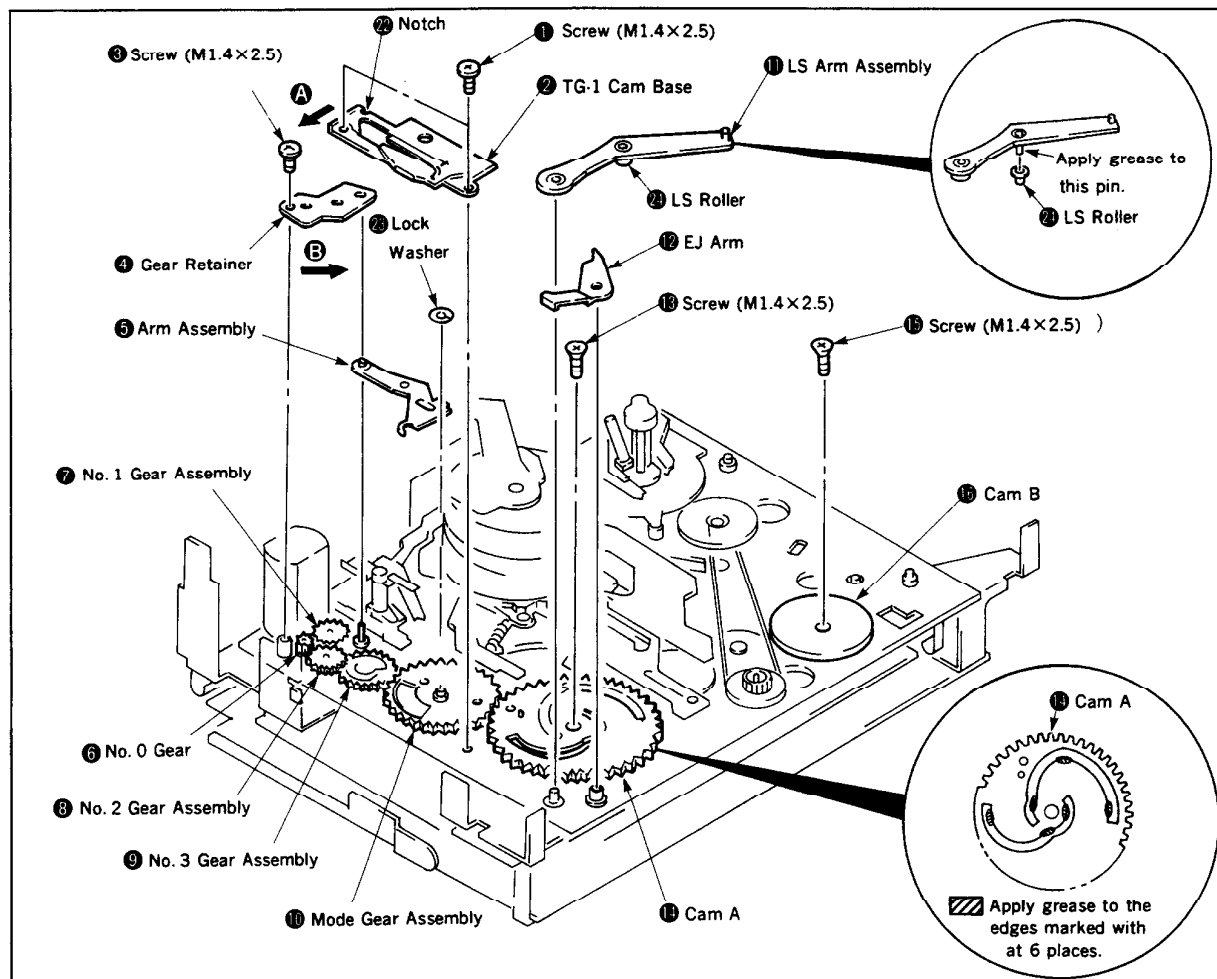
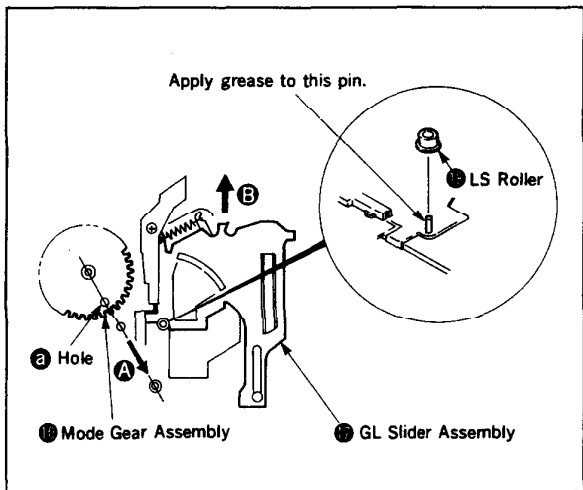

Fig. 29
Fig. 30
3-15 PHASE ADJUSTMENT(Fig. 29)
- 1) Face the hole ① of the mode gear assembly ⑫ to a direction of the arrow A, move the GL slider assembly ⑬ in a direction of the arrow B, apply molyton grease to the pin of the GL slider assembly ⑬, and mount the LS roller ⑬. (Fig. 30)
- 10) Seeing to it that the EJ arm ⑮ and the LS roller ⑬ of the LS arm assembly ⑭ are put in the groove ③ of the cam A ⑰, mount them in that order. (Fig. 29 and Fig. 30)